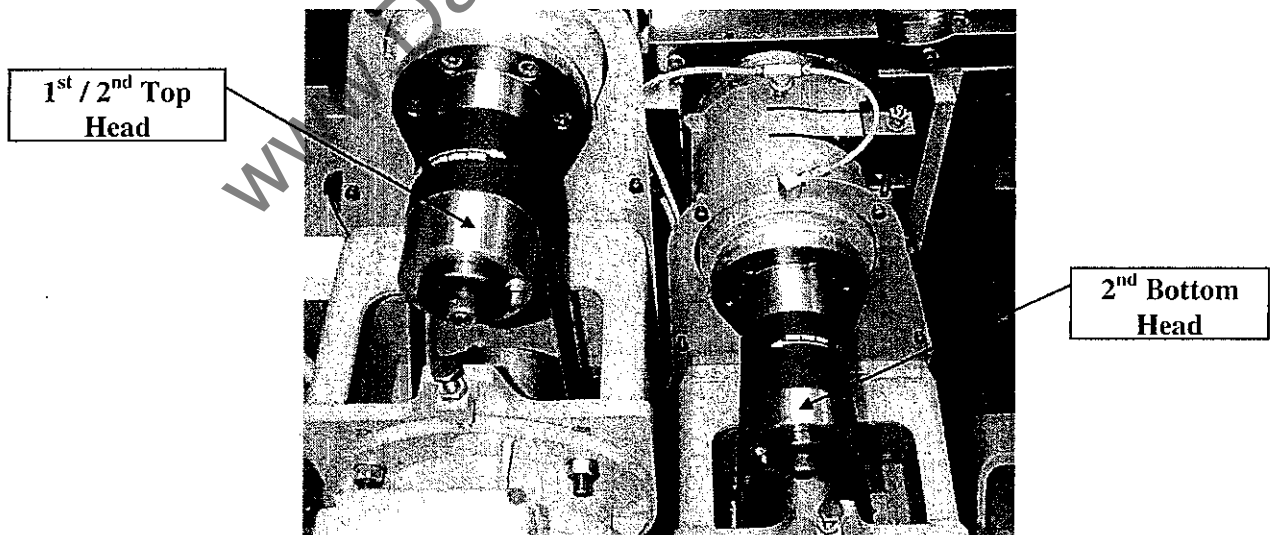

Figure 7.3.5
12. To re-assemble the spindle simply reverse the above procedure remembering to follow the belt tensioning information documented in (Figure 7.3.5.)
15. To re-assemble the spindle simply reverse the above procedure remembering to follow the belt tensioning information documented in (Figure 7.3.5.)
7.3.5 Replacing K30 Top and Bottom Drive Belts (Figure 7.3.5.)
6. Refer to Figure 7.3.5. to ensure the direction of the belt conforms to the spindle position on the machine.